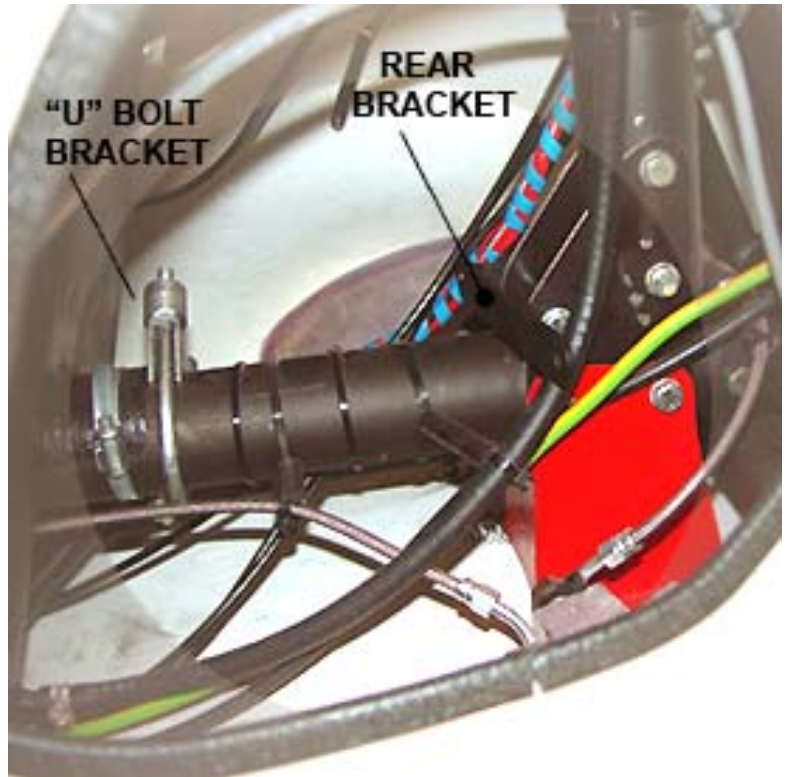

Figure 3-3
- 3.2 Mount the U-BOLT BRACKET on trike's bottom base tube, between the trike's fuel tank and vertical mast tube (Figure 3-3).